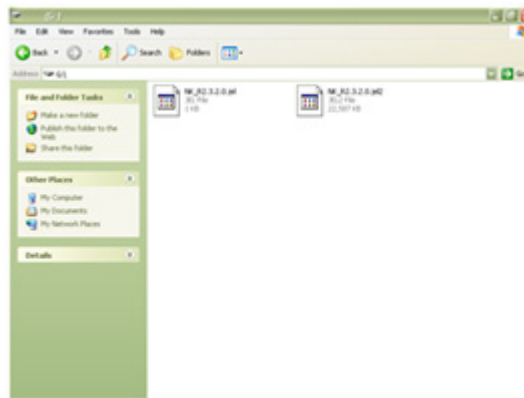

Figure 5-3 Root directory of the external USB flash storage
- 2 After the external USB flash storage is formatted in a bootable format, copy the U8903A application update files into the root directory of the external USB flash storage. An example of the application update files, **NK_R2.3.2.0.jel** and **NK_R2.3.2.0.jel2** are shown in **Figure 5-3**.